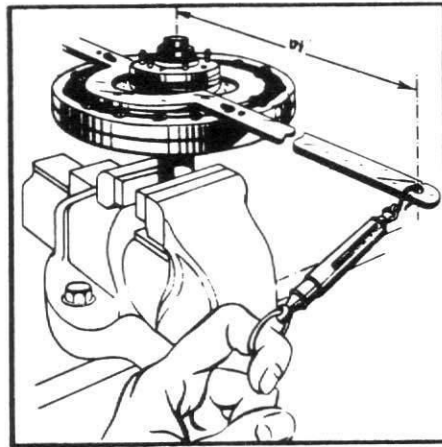

Fig. 5.
The effort required to overcome the frictional drag which is exerted by the damping springs is measured on a spring balance and is obtained in the manner detailed below:- (See Fig.5).
2. Attach the testing bar to the damper flywheel in the manner shown in Fig. 5.